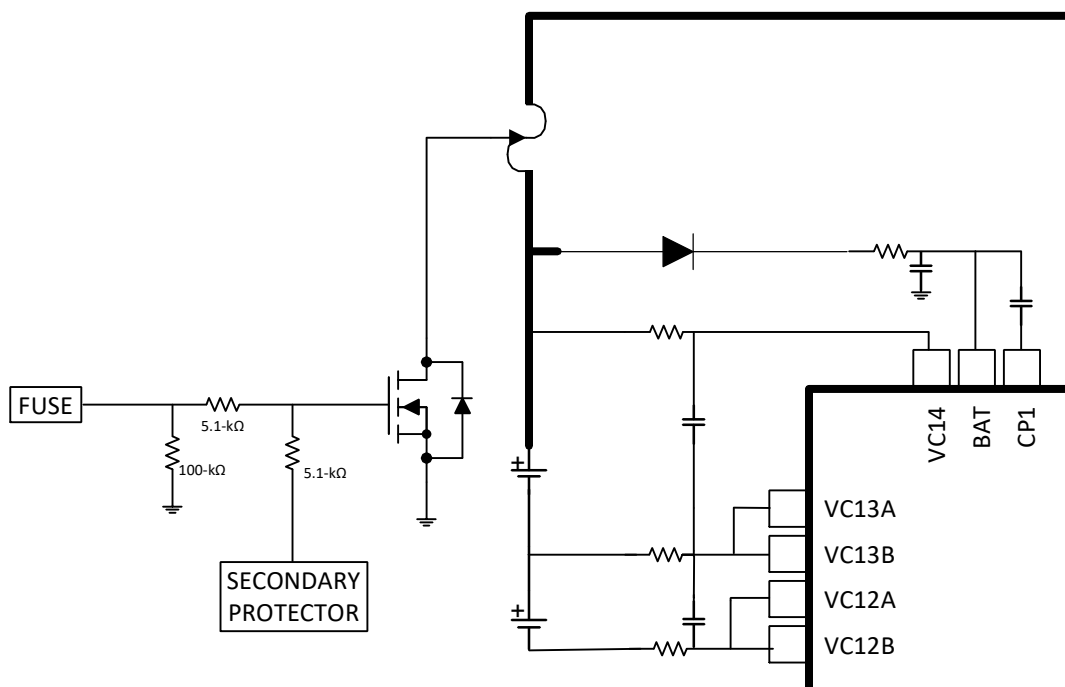

图 12-1. FUSE Pin Operation
The FUSE pin on the BQ769142 device can be used to blow a chemical fuse in the presence of a Permanent Fail (PF), as well as to determine if an external secondary protector in the system has detected a fault and is attempting to blow the fuse itself. The pin can drive the gate of an NFET, which can be combined with the drive from an external secondary protector, as shown in Figure 12-1. When the FUSE pin is not asserted by the BQ769142 device, it remains in a high-impedance state and detects a voltage applied at the pin by a secondary protector. The device can be configured to generate a PF if it detects a high signal at the FUSE pin.